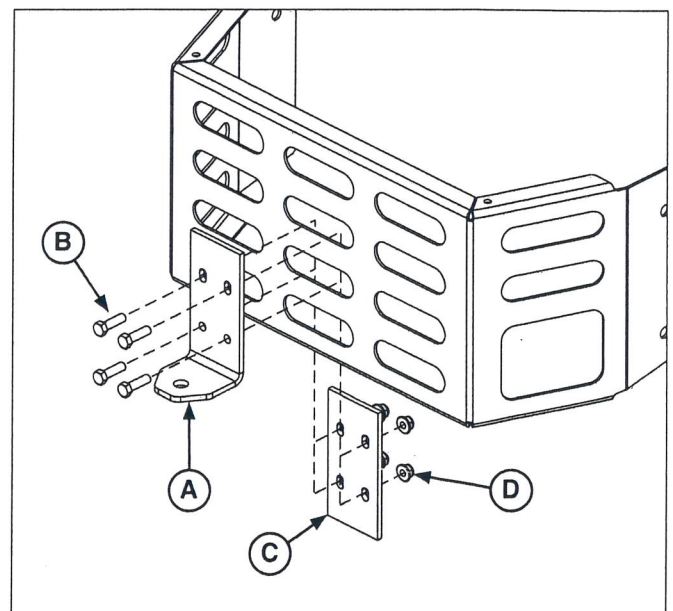

Figure 2. Install Hitch Kit (Snapper Pro)
3. Install the 3/8-16 X 1-1/4" bolts (B, Figure 2) through the hitch plate (A).
4. Install the hitch plate onto the bumper with the bolts in the middle two slots of the center column as shown in Figure 2.
5. Install the back plate (C) and loosely secure with the 3/8-16 nylock flange nuts (D).